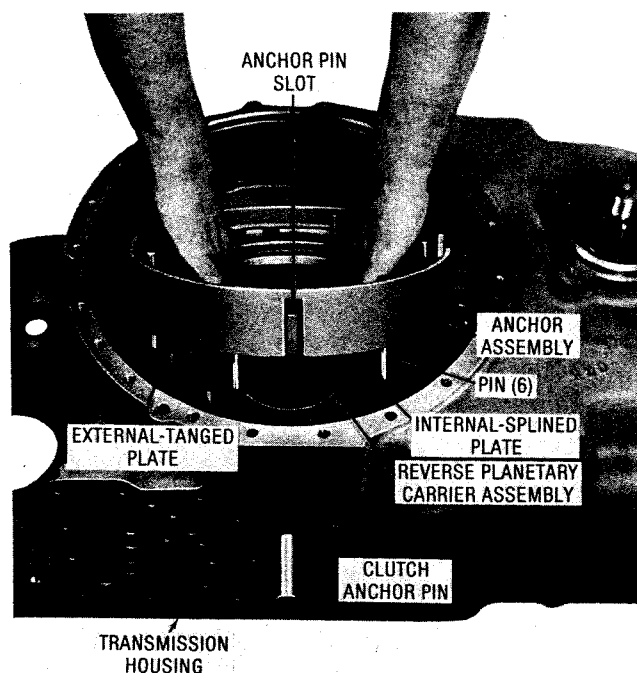

Fig. 7-15. Installing forward-and-reverse clutch anchor assembly
(3) Install one external-tanged plate and one internal-splined plate onto the reverse planetary carrier assembly (fig. 7-15).
(4) If transmission is equipped with a high-speed, forward ratio, install sun gear 16 (foldout 9,B), small end first, into the reverse planetary carrier assembly.
(5) Align the slots of the five reverse, external-tanged clutch plates to receive the pins in the clutch anchor assembly (fig. 7-15). Install the clutch anchor pin into the control valve mounting pad on the left side of the transmission housing. Aligning the anchor pin slot with the clutch anchor pin hole within the transmission housing, install the forward-and-reverse clutch anchor assembly, longer ends of pins downward, and engage the slots of the five external-tanged clutch plates. Be sure that the six notches of the five external-tanged plates are engaged by the six anchor pins in the anchor assembly. (Listen for a sound of the assembly seating when the plates are aligned.)
(6) Push the clutch anchor pin into the slot in the forward-and-reverse clutch anchor assembly (fig. 7-15). Temporarily install a 3/8-16 x 1-inch bolt and a flat washer to retain the anchor pin during subsequent assembly operations. (Refer to fig. 7-17.)